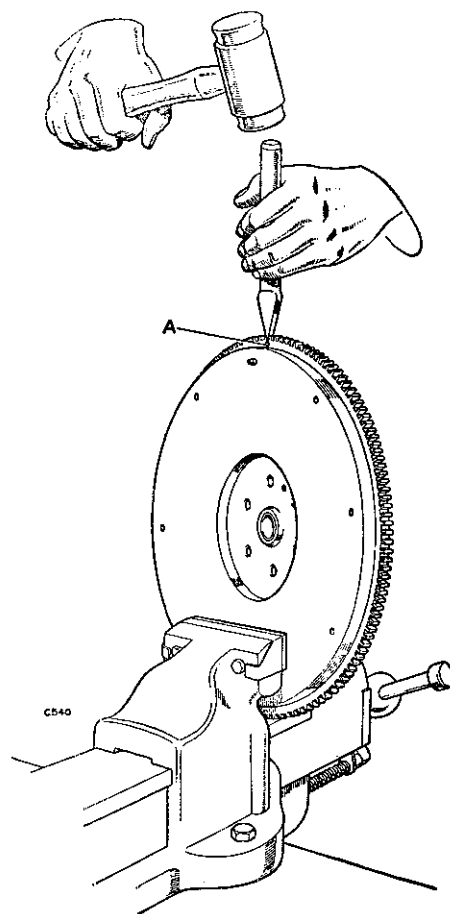

Fig. V-1—Removing an unserviceable starter ring.
2. The operator should then stand in the position indicated by Fig. V-1, place a chisel immediately above the drilled hole, and strike it sharply.